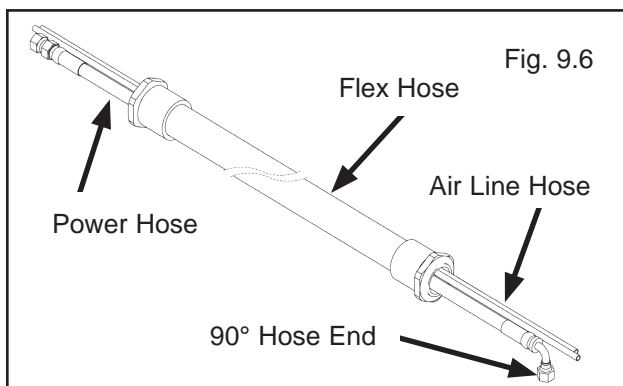

Fig. 9.6
5. Route both the Power Unit Hydraulic Hose and TWO (2) lengths of Air Line through the Flex Hose. (See Fig. 9.6)